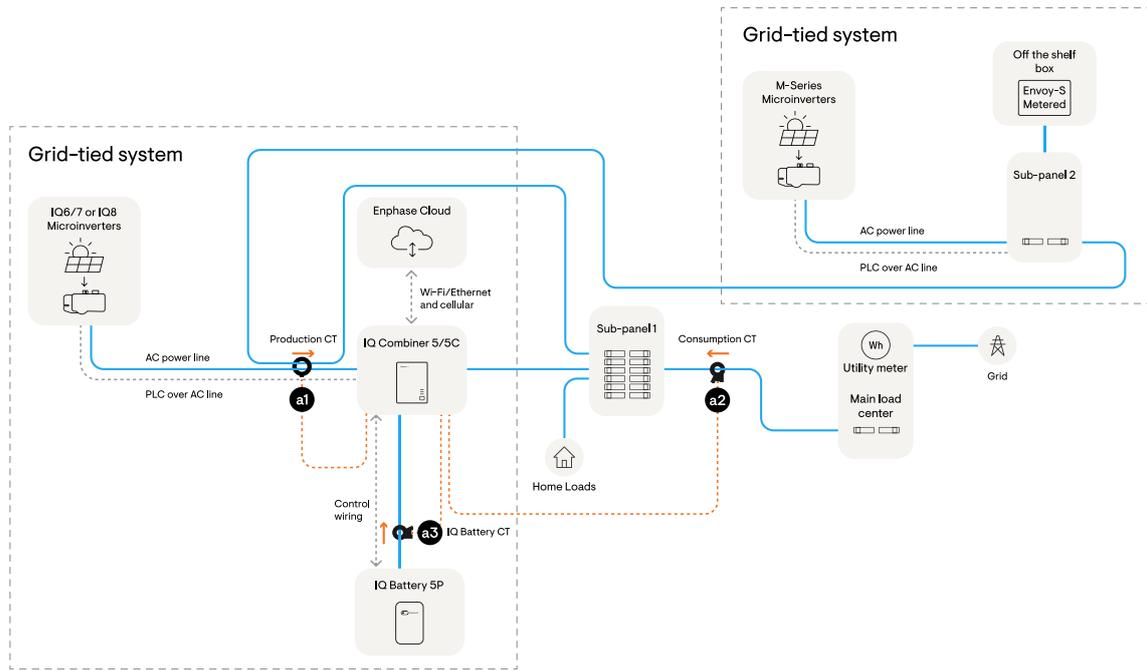

Figure 18: Scenario 2B
- B. If there is no access to utility lines, AND if it is possible to rewire the existing PV system (where the power lines from the subpanel in the existing PV system (with M Series microinverters) are terminated on the subpanel with home loads as shown in Figure 18), then in IQ6/IQ7 or IQ8 grid-tied PV + IQ Battery system:
a1	The PV branch to the IQ Combiner AND the power lines that originate from subpanel 2 in the grid-tied system (with M Series microinverters) and terminate on subpanel 1 with home loads, both running through the Production CT (a1) as shown in Figure 18 .